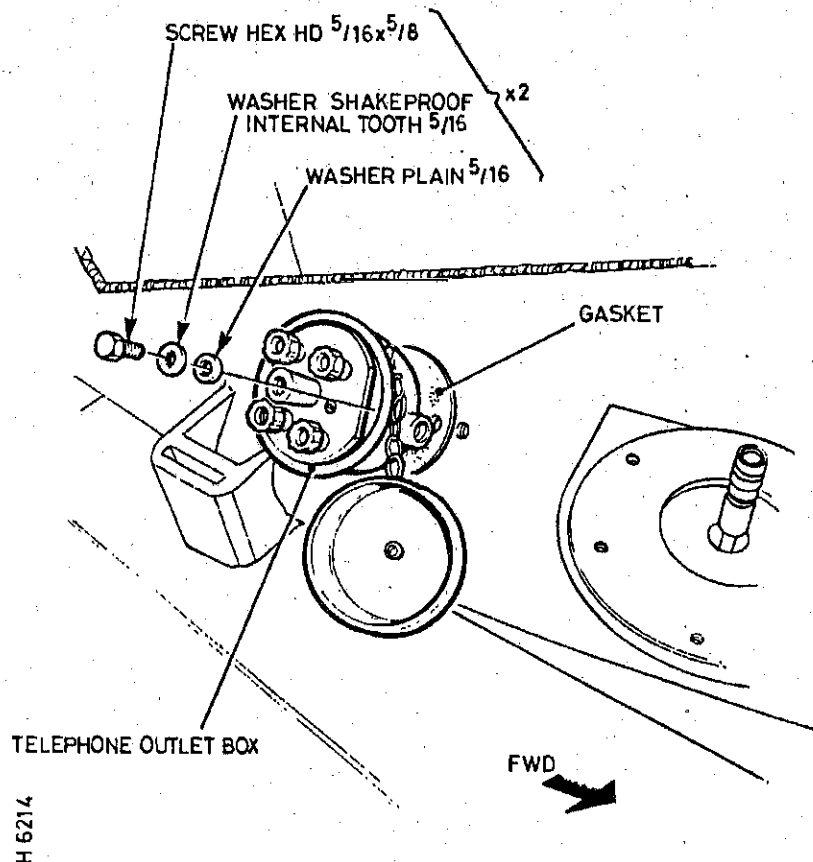

Fig 7 Telephone outlet box mounting
24 The Telephone Outlet Box (1) is mounted at the rear of the exterior r.h.s. plate. With reference to Fig 7 install the telephone outlet box as follows:
24.1 Remove the cover from the Telephone Outlet Box (1).